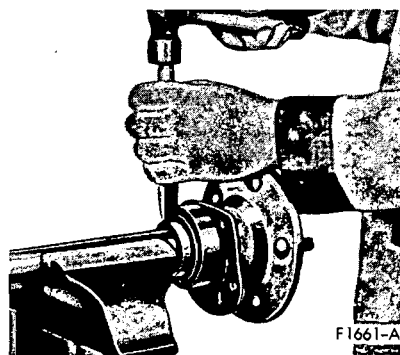

FIG. 2 Removing Rear Wheel Bearing Retainer Ring
3. Remove the grease cap from the hub. Remove the cotter pin, nut lock, adjusting nut, and flat washer from the spindle; then, remove the outer bearing cone and roller assembly, (Fig. 2, Group 11, Part 02).
1. On all models except Ford, Mercury or Meteor, if the rear wheel bearing is to be replaced, loosen the inner retainer ring by nicking it deeply with a cold chisel in several places (Fig. 2). It will then slide off easily.